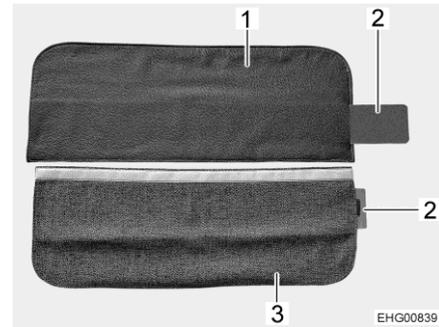

Fig. 62 Seat belt cover
The seat belt cover can be made of leather (Fig. 62,1) or fabric (Fig. 62,3).
- Slide the metal reinforcement plate (Fig. 62,2) completely into the pocket of the seat belt cover (Fig. 62,1 or Fig. 62,3).